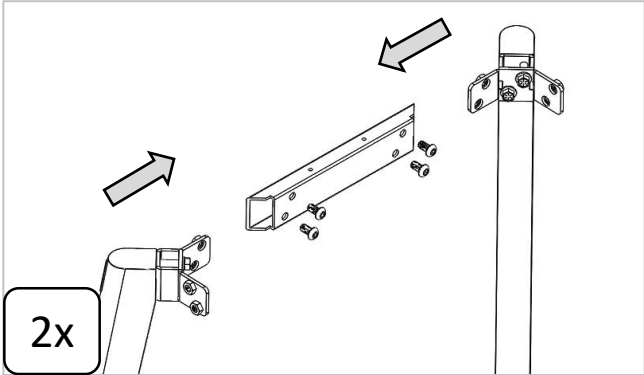

Figure 4.1
2. Attach the end assemblies from Figure 4.1 to the Tubes (width) using the 3/8-16 x 0.75 Button Head Socket Cap Screws. Keep small holes in Tube facing upwards.